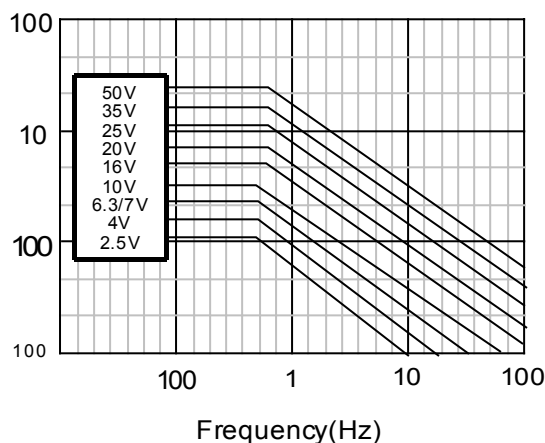

Fig.6 Maximum permissible ripple voltage (P,A,B)
- ▷ The maximum permissible ripple voltage varies with the rated voltage. Ensure that ripple voltage does not exceed the values shown in Figs 6 and 7. If, however, the capacitors are used at a high temperature, the maximum permissible ripple voltage must be calculated as follows: